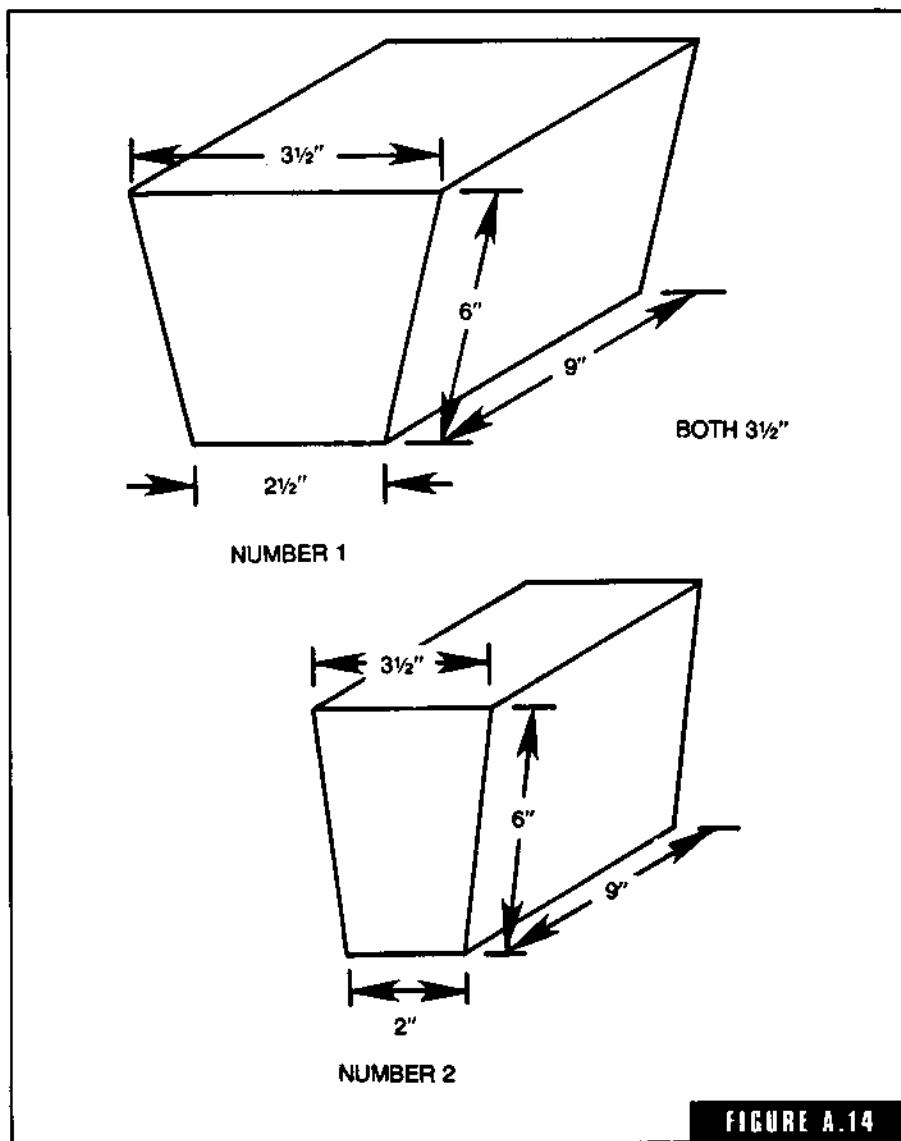

FIGURE A.14
**arch brick** Tapered refractory bricks used to construct a furnace or kiln-arched roof. The two most common sizes are the Number 1 and Number 2 arch (Fig. A-14). By selecting the correct combination of straight brick, splits, and Number 1 and Number 2 arch brick, you can build the desired arch radius.